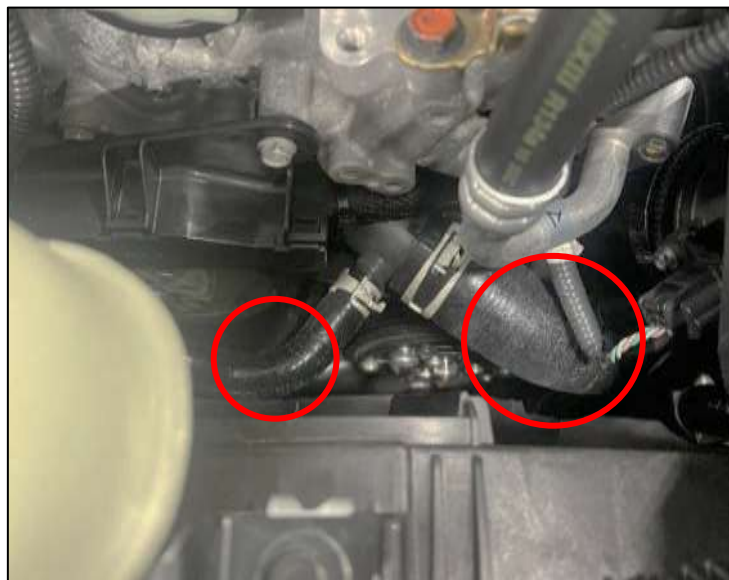

Figure 4
- b. If choosing to pinch the hoses, use proper pinch clamps and pinch the hoses connected to the OE Water Inlet. *Figure 4.*